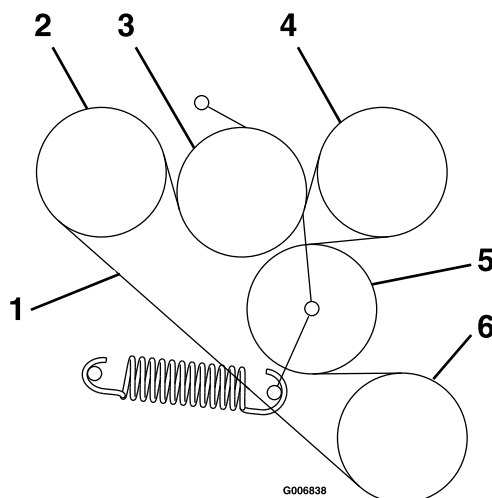

Figure 53
6. Route the new belt onto the sheaves as shown in the decal located on the back of the left drive shield (Figure 53).